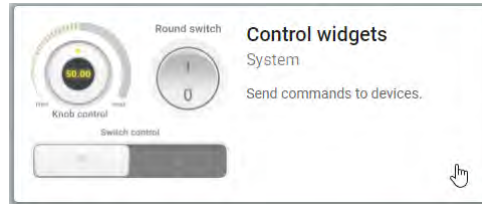

Figure 4.4: Control Widget
- Control widgets are the widgets that can send RPC. So, select **control widgets** as shown in Figure 4.4.